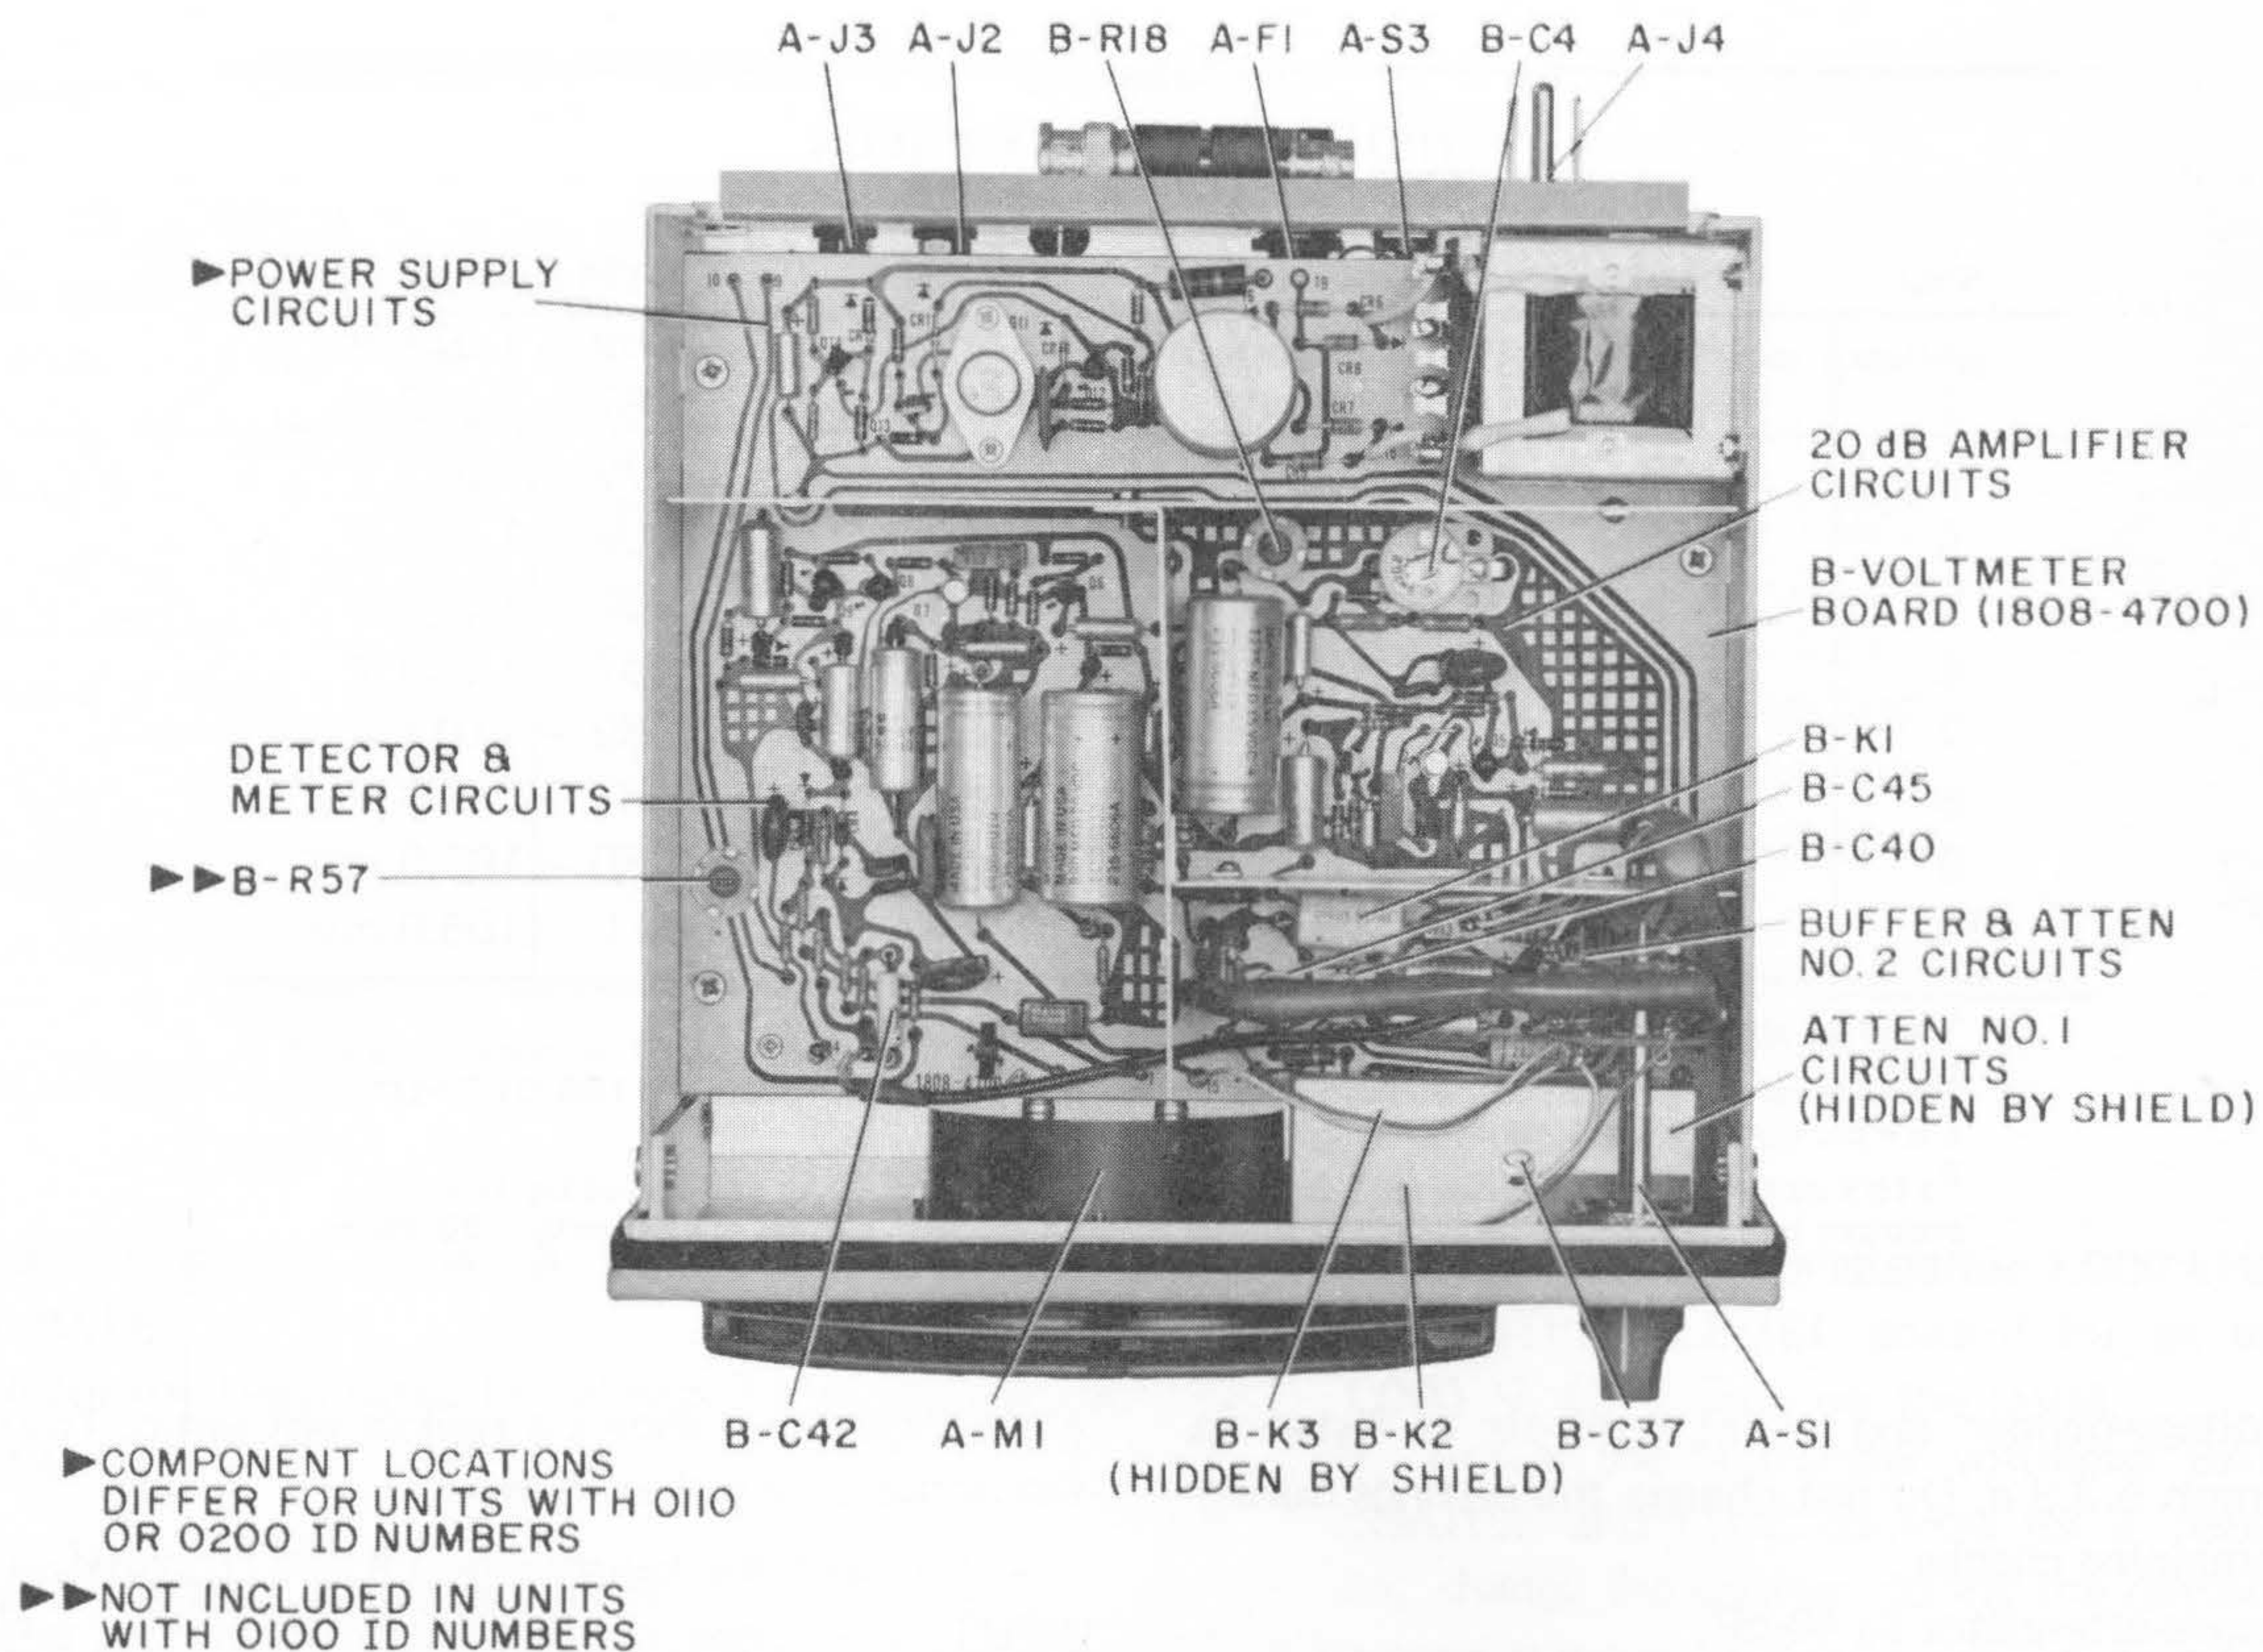

Figure 5-2. Top interior view of Millivoltmeter.
Calibrate the millivoltmeter whenever minimum performance standards, operating procedures, troubleshooting, or maintenance checks indicate that the instrument is out of calibration. Table 5-1 lists the test equipment recommended to perform the calibration while Figure 5-1 shows a typical test setup. All controls requiring adjustment are mounted on the B-voltmeter board, and are identified in Figure 5-2. To gain access to the controls requiring adjustment, remove the chassis from the cabinet, as described in paragraph 5.7.1. Make sure that all shields
1. Capacitor B-C42 (Figure 5-2) is attached to the etched-circuit board by two solderless plug-in jacks.
equivalent) using a 10-M $\Omega$  voltage probe and probe adaptor referenced to circuit ground on the 1.5 V range. Test locations specified are general locations between stages. Major stage locations are shown in Figure 5-2.